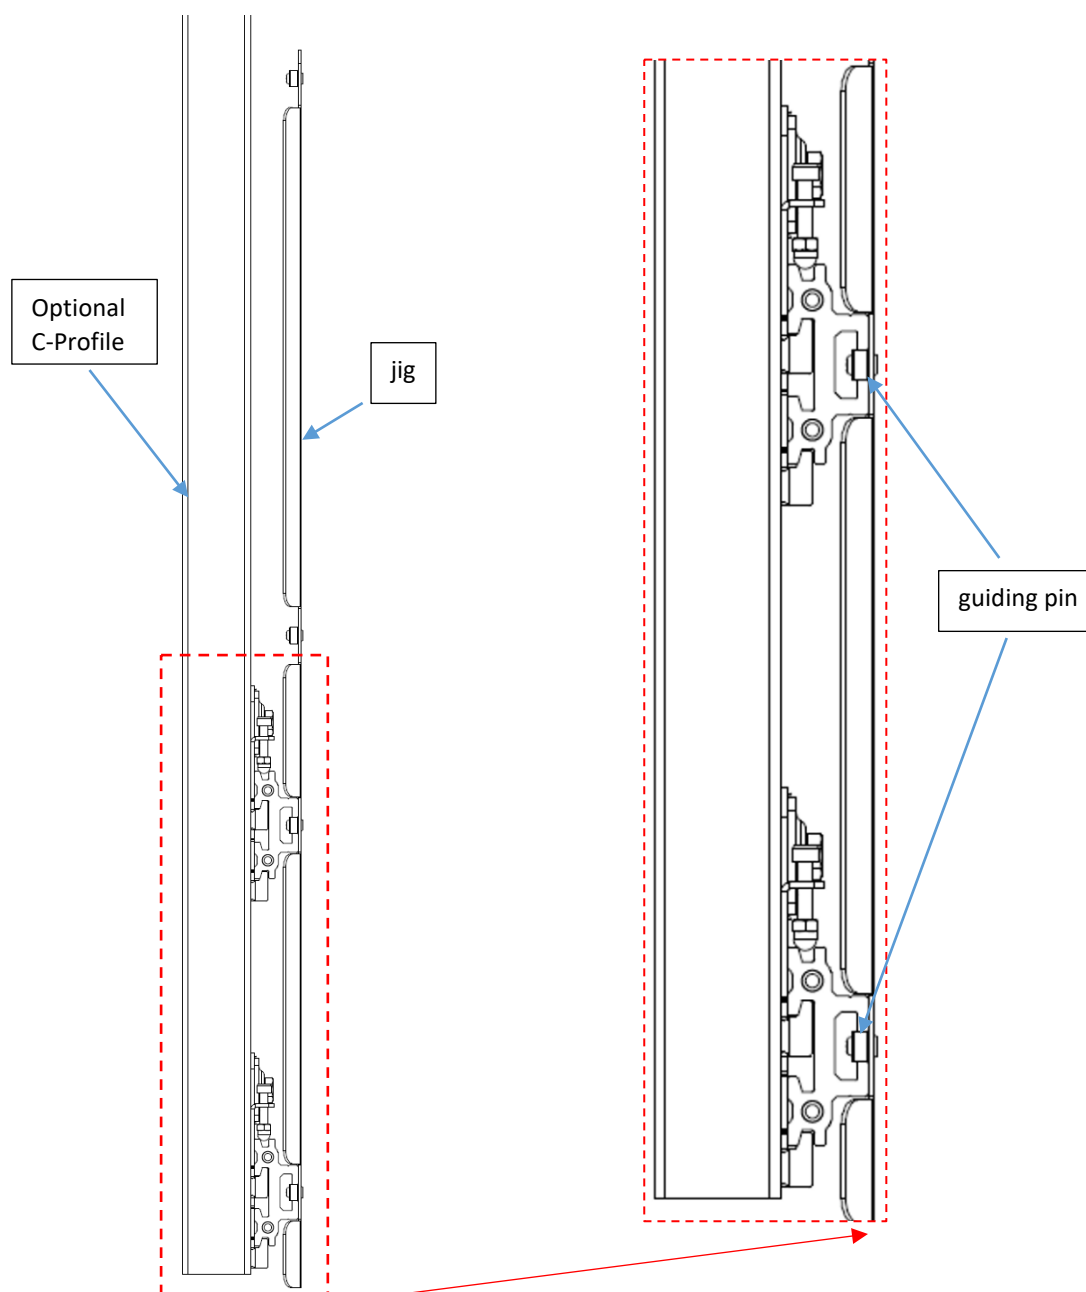

Figure 12 Sideview using the jig on first and second row profiles
Step 2: Use the two provided mounting jigs and position them with the lowest guiding pin into the nut profile of the lowest profile. Install the second row of profiles so that the second lowest guiding pin fits to the nut profile of that second row. See also Figure 12.